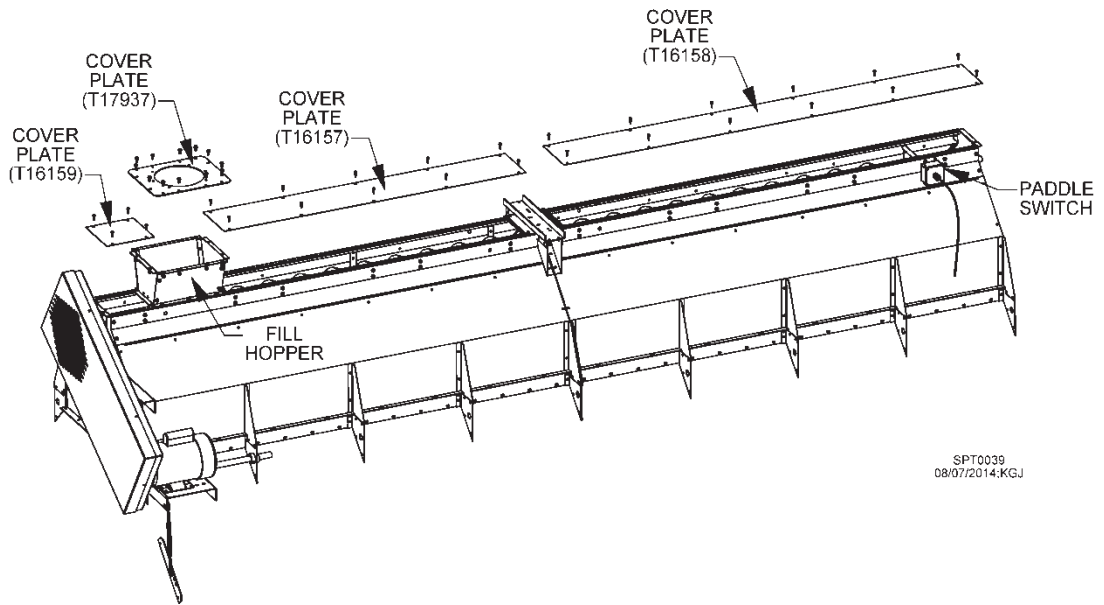
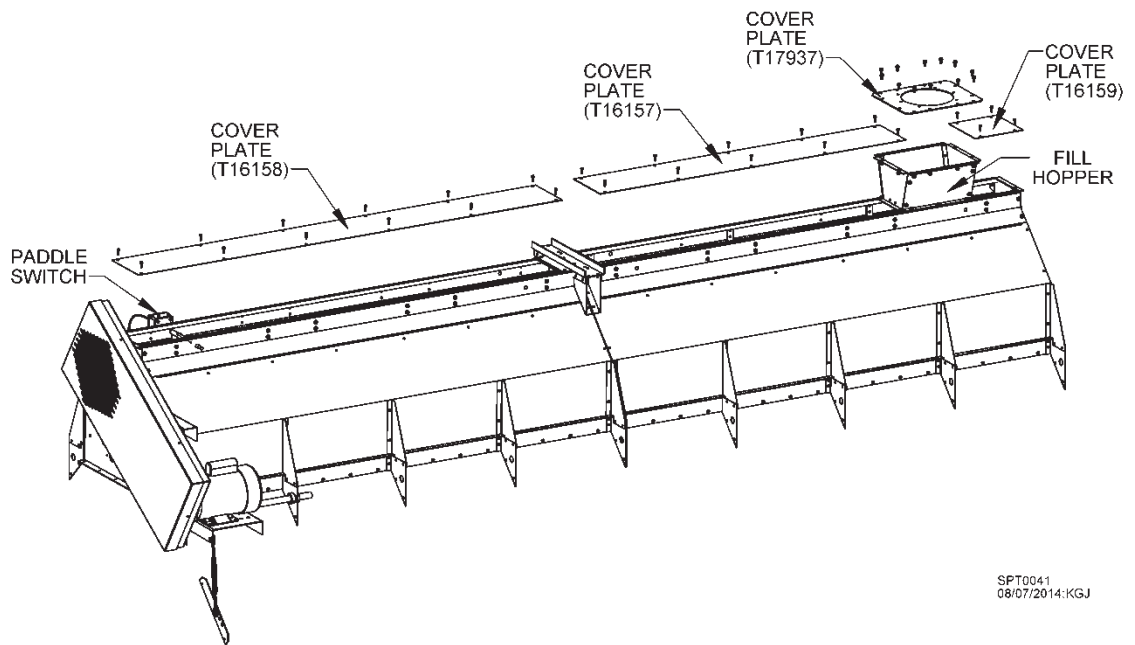

Fig. 2-15 – Fill hopper installation at front of wet bin (16' dryer shown)
Fig. 2-16 – Fill hopper installation at rear of wet bin (16' dryer shown)
5. Bolt top fill hopper to top of wet bin on filling end of dryer. Place cover plates on top and attach with 1/4 x 1" self-drill screws. See Fig. 2-15 for front-fill and Fig. 2-16 for rear-fill dryer.